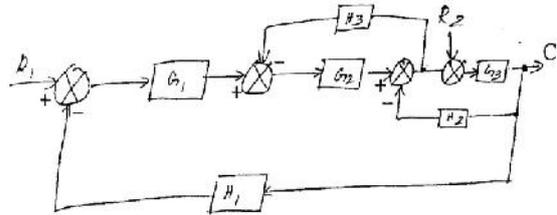

Fig. 3.
- (b) Obtain the output of the system shown in Fig. 3. (16)